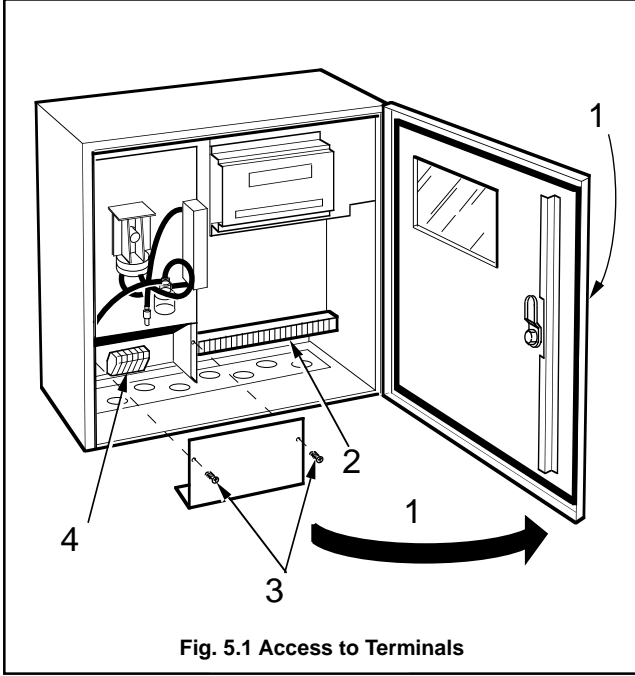

Fig. 5.1 Access to Terminals
5.1 Access to Terminals – Fig. 5.1